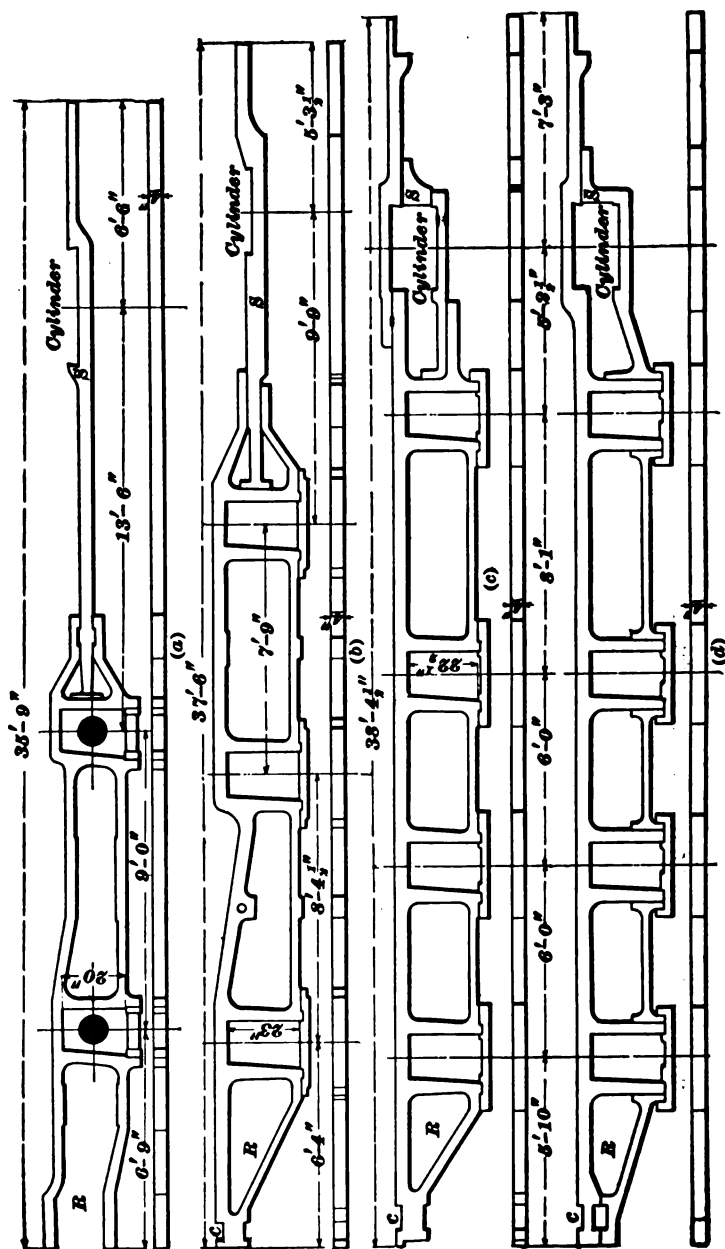

FIG. 17.
64. **General Description.**—Side views of four styles of **frames** in common use are shown in Fig. 17. Frames (a), (b), and (c) are each made in two parts, the cylinders being fastened to the front part or rail of the frame, called the *splice*. The back part, called the *main frame*, contains the *pedestals* or *jaws* for the driving boxes.